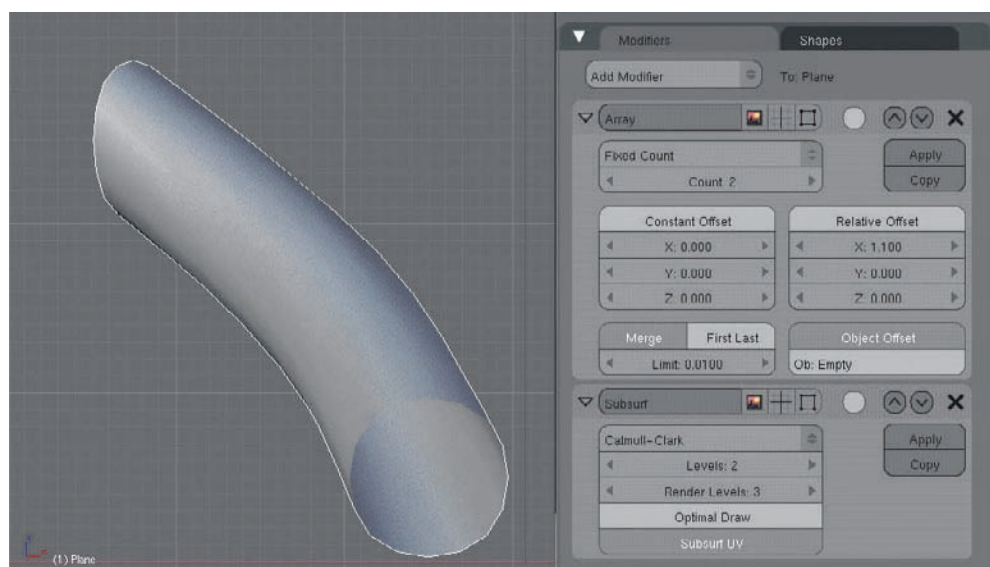

Figure 1.82 Adding a Subsurf modifier
4. In the Modifiers tab, toggle Merge on in the Array modifier panel, select Set Smooth on the mesh, and add a Subsurf modifier set to Levels: 2 and Render Levels: 3. As you can see in Figure 1.82, the spring is taking shape.